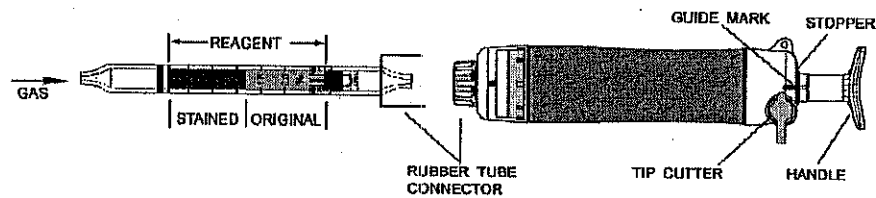

Fig.1
- ① Break both ends of the detector tube.
- ② Insert the detector tube into the aspirating pump securely as shown in Fig.1. (Arrow mark shall point to the pump.)
- ③ Align the guide marks on the shaft and stopper of the aspirating pump.
- ④ Pull the pump handle at a full stroke until it locks and wait for 1.5 minutes or until the completion of sampling is confirmed with the flow indicator of the pump (See descriptions about the flow indicator in the instruction manual of the pump).
- ⑤ On completion of sampling, read the scale at the maximum point of the stained layer.
- ⑥ When the concentrations are over the scale range, a 1/2 pump stroke can be used to determine concentrations of 1.0 to 5.0%.
- ⑦ Correct the reading value with Temperature Correction Table for Acetone (REFER TO ITEM 3. CORRECTION FOR AMBIENT CONDITIONS)